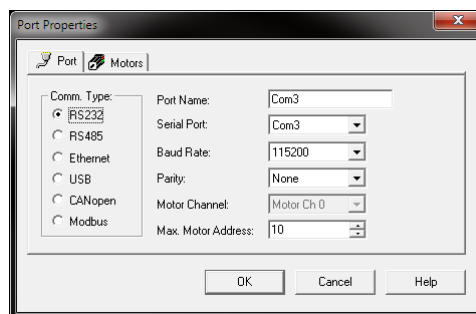

Figure 17: SMI Port Properties
- 6) In the **Configuration** window, right-click on the serial port you connected the SkyScan to (with the NULL modem serial cable) and select **Properties**. The dialog shown in Figure 17 will be displayed.